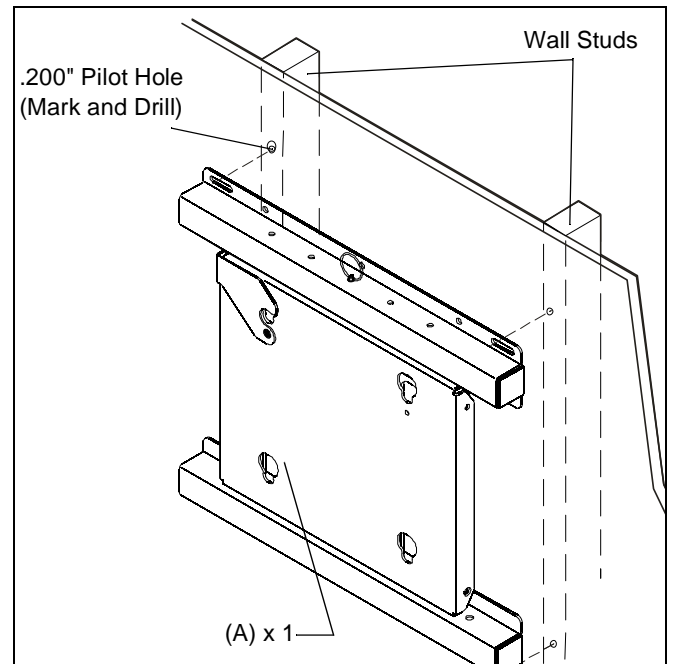

Figure 4
3. Place mount assembly (A) against wall, level mount, and mark four pilot hole locations (See Figure 4).
4. Drill four pilot holes, at marked locations. (See Figure 4).